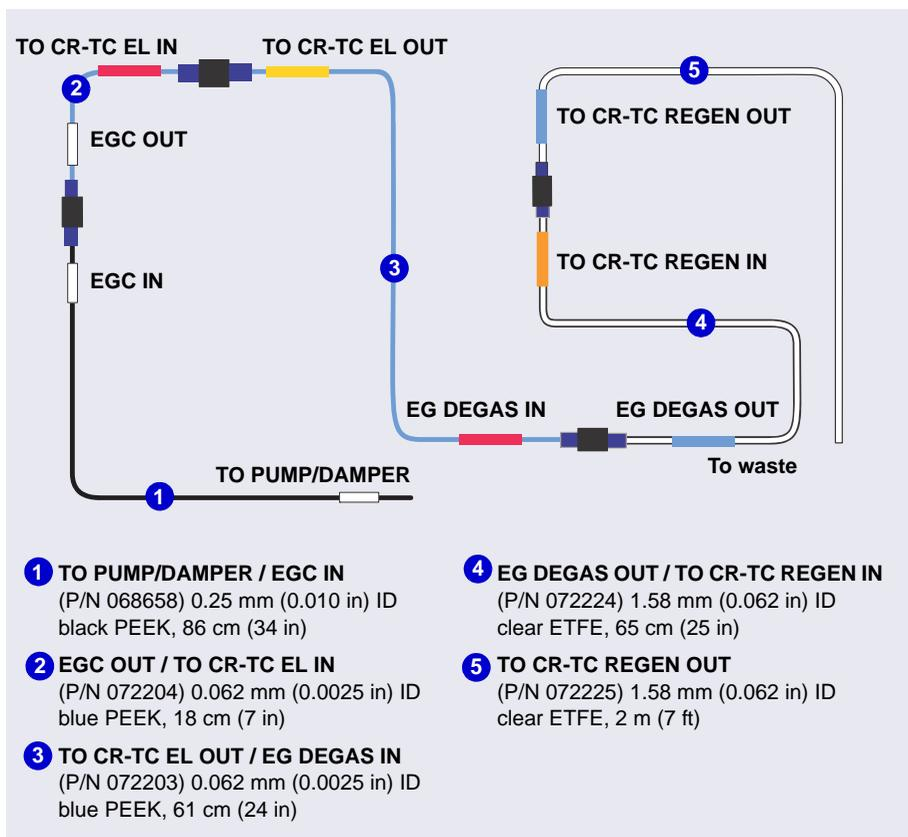

Figure 4-1. Pre-Assembled Tubing Chain
A pre-assembled tubing chain is included in the Dionex ICS-5000⁺ IC Cube Ship Kit (P/N 072003). The chain includes several lengths of tubing connected to each other with unions (see Figure 4-1). The tubing will be used to plumb the pump outlet, Dionex EGC, CR-TC, and EG degas.
5. On the pre-assembled tubing chain (see Figure 4-1), connect the black PEEK tubing labeled **TO PUMP/DAMPER** to the outlet of the trap column. Keep the remaining tubing in the chain connected.
On the pre-assembled tubing chain (see Figure 4-1), connect the black PEEK tubing labeled **TO PUMP/DAMPER** to the pump pulse damper outlet. Keep the remaining tubing in the chain connected.
- Remove the union between the **EG DEGAS IN** and **EG DEGAS OUT** lines on the pre-assembled tubing chain (see Figure 4-1). Connect the lines to their respective ports on the EG degas cartridge.
3. Remove the **EG DEGAS IN** and **EG DEGAS OUT** lines from the pre-assembled tubing chain (see Figure 4-1) and connect them to their respective ports on the EG degas cartridge.